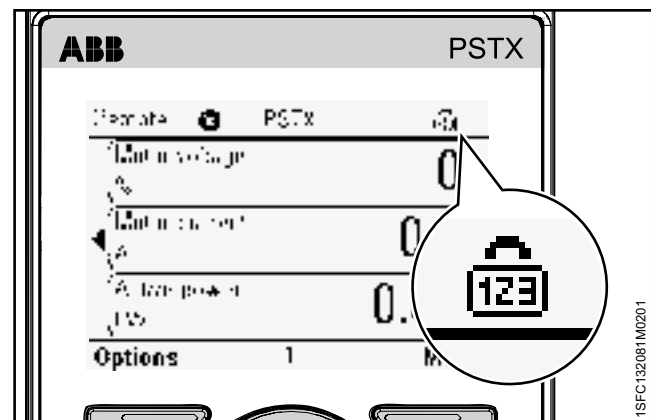

Figure 6.12
3. Parameter lock with user code, See **Figure 6.12**
4. Emergency mode, See **Figure 6.12**